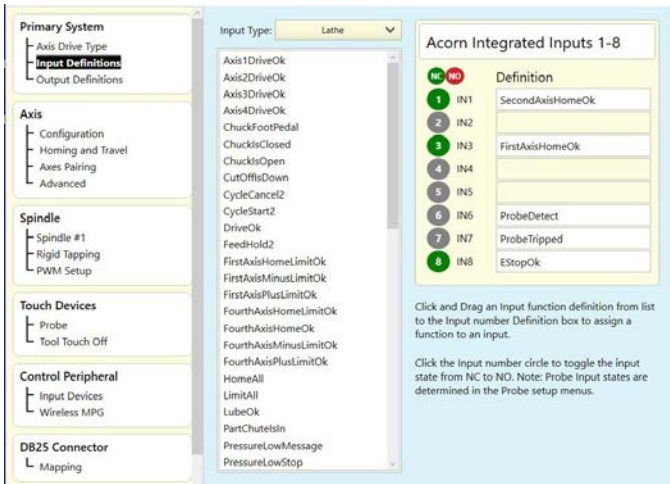

FIGURE 33
A. Click on “Input Definitions”. Then from the Lathe list drag “Probe Detect” to IN6 and “Probe Tripped” to IN7 (see Figure 33).